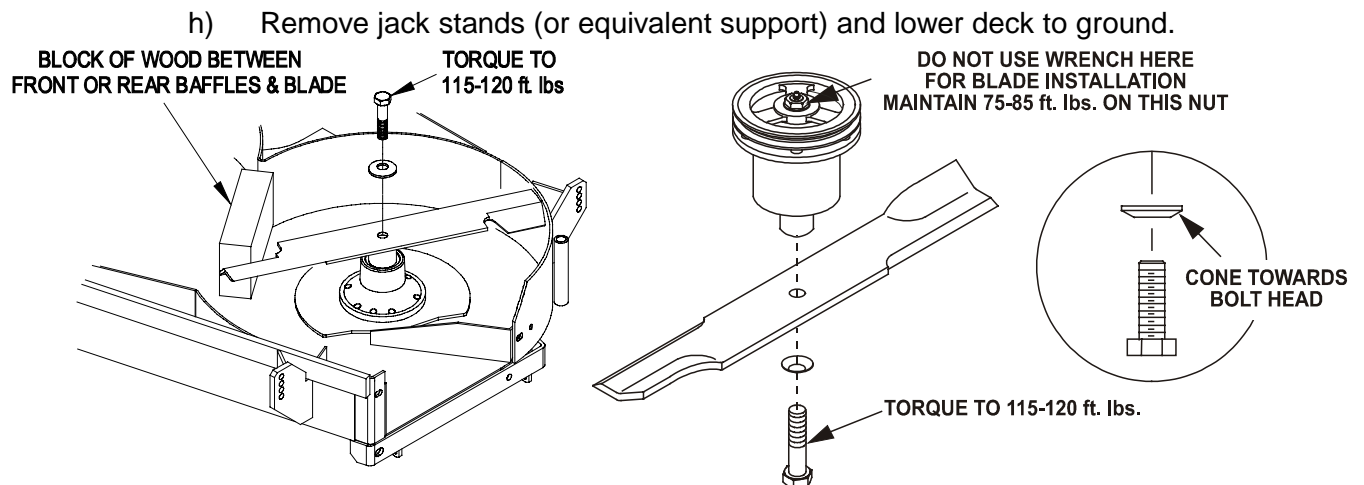

FIG. 4
- g) Re-install the blades (if they were removed) by placing a block of wood between the front or rear baffles and the blade then torquing the blade bolts to 115-120 ft. lbs. Be sure the spring disk washer cone is installed toward the bolt head (See Figure 4).